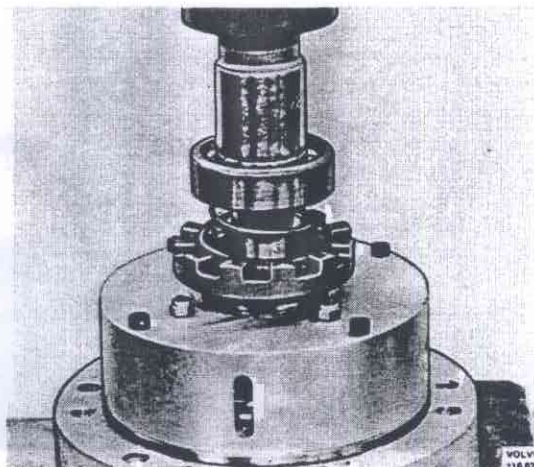

Fig. 48-26. Pressing on the bearing
9. Place the flange and the thrust spring on the input shaft, see Fig. 48-26.